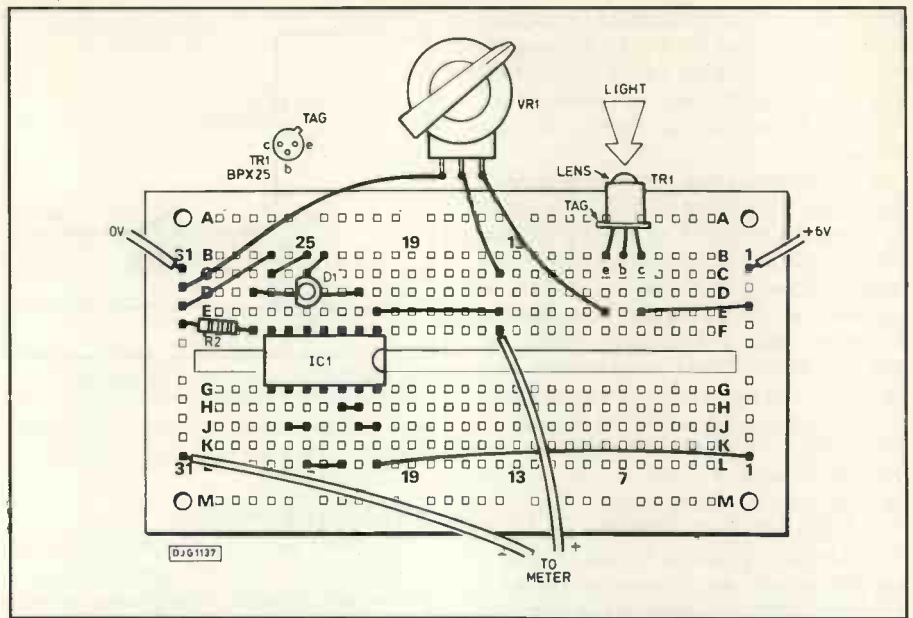
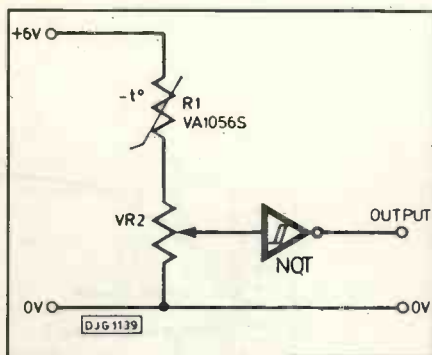

Fig.8. Breadboard layout of the circuit in Fig. 7.
Fig.10. Temperature sensitive interface
(pins 5, 6) for reliable action. If you are using ttl, the pins to be connected to 5V or 0V are 4, 5, 9, 10, 12 and 13 (as in Fig. 8).
1. Set up the circuit (Fig. 10). The breadboard layout is similar to Fig. 8, with R1 instead of TR1. Adjust VR1 until the led goes on. The voltage at the wiper of VR1 is below the lower threshold.
- In Fig. 10, what is the effect on the input voltage of the gate as the temperature increases? What is the effect on the output voltage?